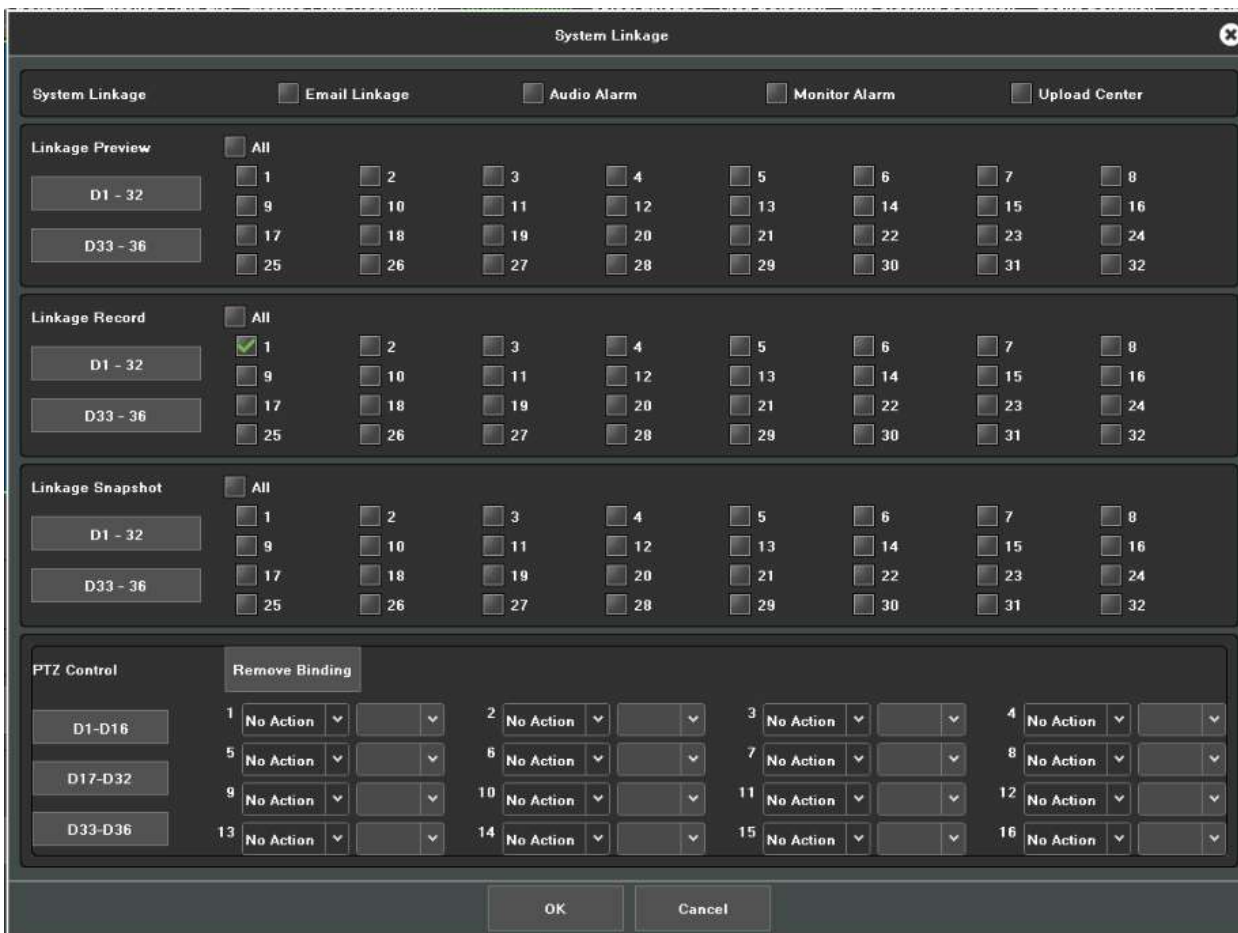

Figure 7.19 Linkage
4. Setup the linkage operation of the channel, as shown in Figure 7.19.